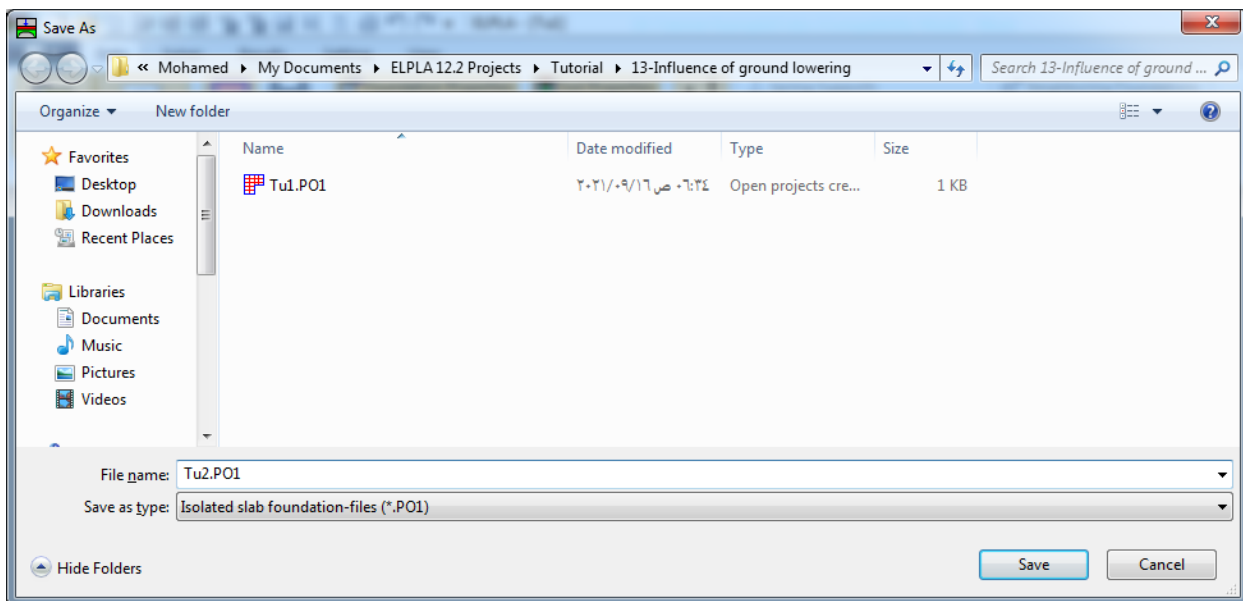

Figure 13.36 "Save As" dialog box
- Choose "Save project as" command from "File" menu of *ELPLA*. The following "Save As" dialog box appears, Figure 13.36